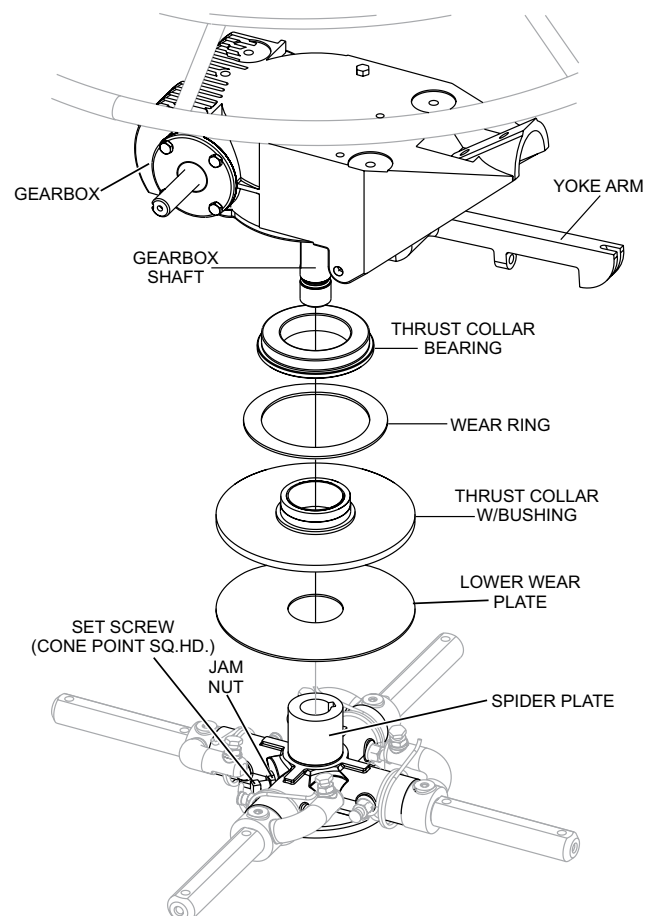

Figure 24. Spider Removal
- Locate the cone point square head set screw (Figure 24) and attached jam nut found on the side of the spider assembly.